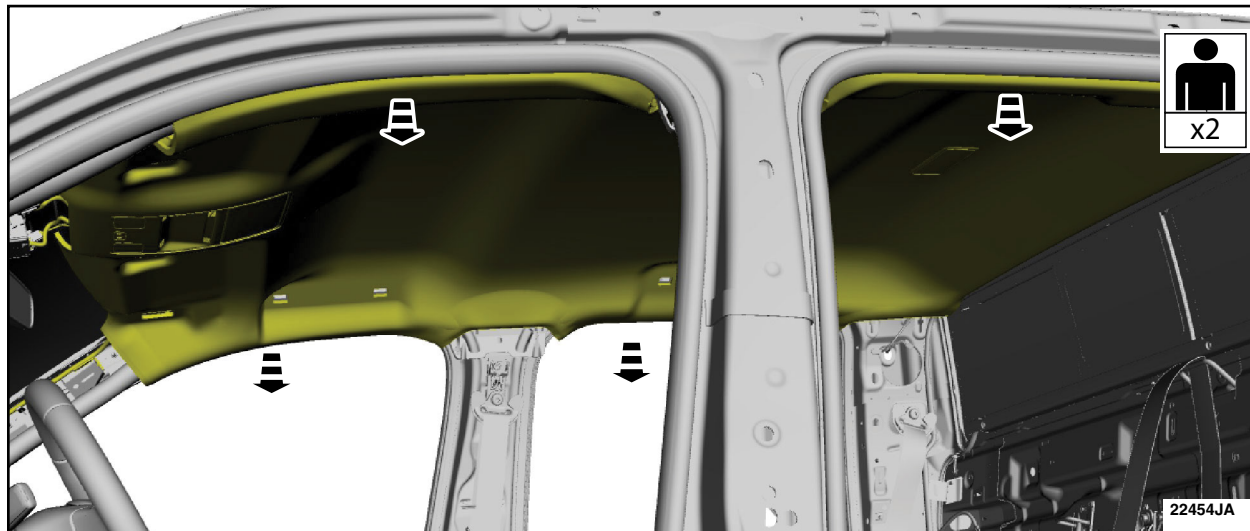

FIGURE 17
20. Lower the headliner. See Figure 17.